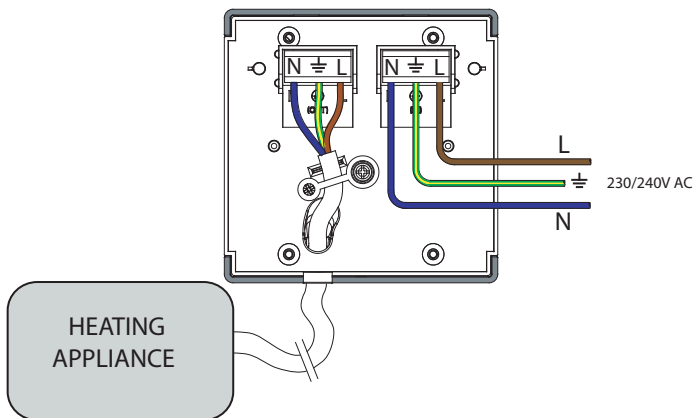

Fig. 5
- The cable of the heating appliance is fed through an opening on the underside of the Receiver unit - see **Fig. 5**.
- The cable from the heating appliance is then wired to the terminal block labelled (out). Please ensure the wires are connected in accordance with the marked terminals - see **Fig. 5**.
- Connect the fixed wiring of the premises (via a local isolation switch or RCB) from the backing box to the clearly marked terminals on the Receiver unit (see **Fig. 5**). Please ensure that the unit is earthed to the backing box.
Receiver Wiring - see Fig. 5